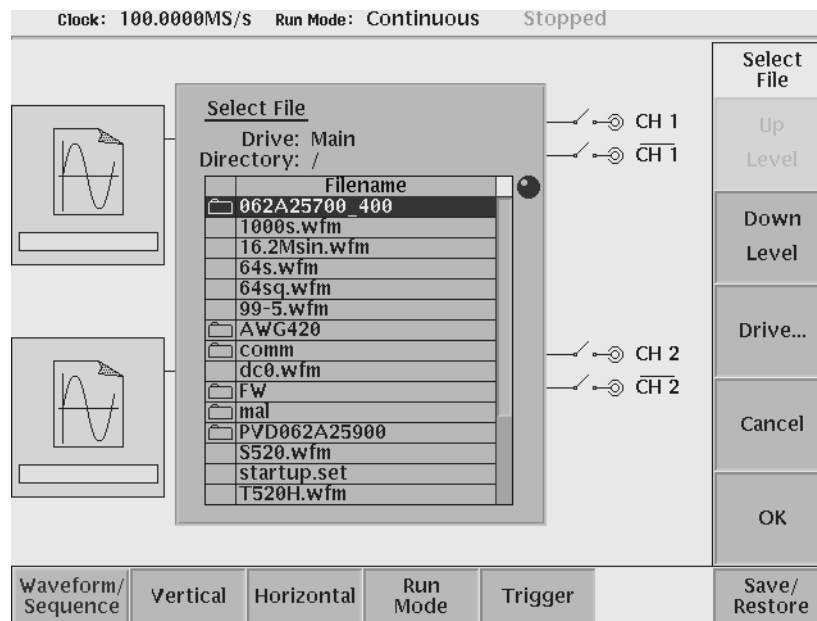

Figure 2–24: Setup Waveform/Sequence menu
2. Push the **Load...** side button. The instrument opens the Select File list as shown in Figure 2–24.